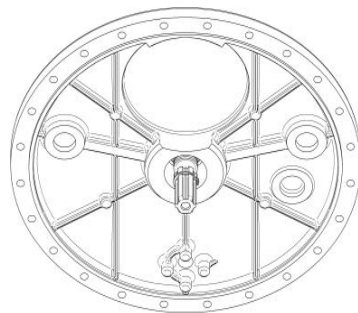

Figure 18
- (1) Remove the tap-changer head cover (24 M10 bolts, wrench No. 17), taking care not to damage the O-ring on the head cover (Fig. 18).